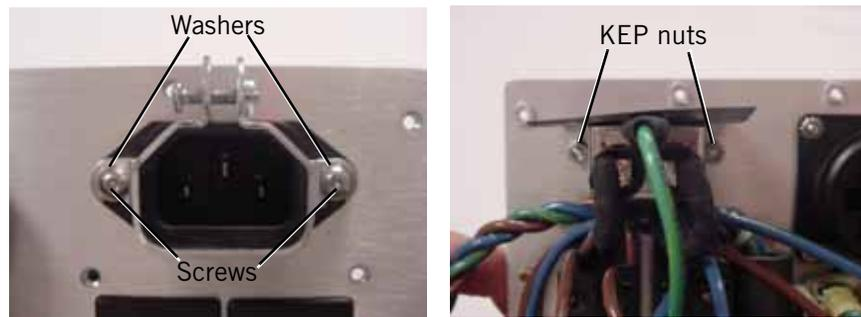

Figure 9-48: AC Cord Bracket (Outside and inside views)
Follow these steps to remove the AC Cord Bracket (Figure 9-48). (Reverse removal steps to install.)
3. Remove the screws, washers, and KEP nuts that hold the AC Cord Bracket to the AC Distribution Panel (Figure 9-48).